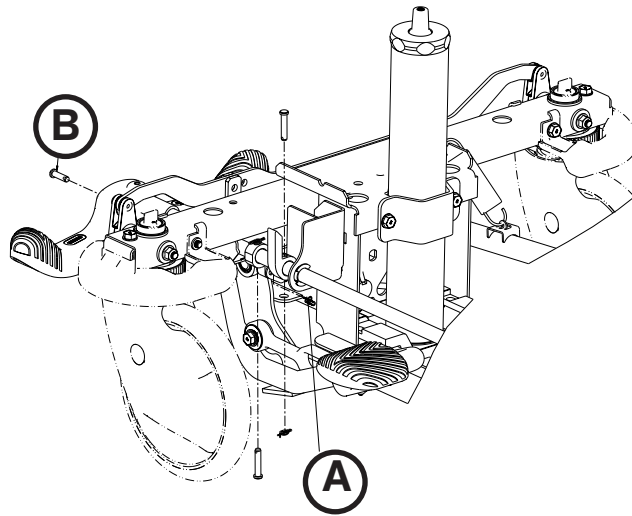

Figure 12
6. Using needle nose pliers, remove the rue ring cotter (A) and clevis pin (B) that secure the brake cam and link assembly to the brake rod (Figure 12).